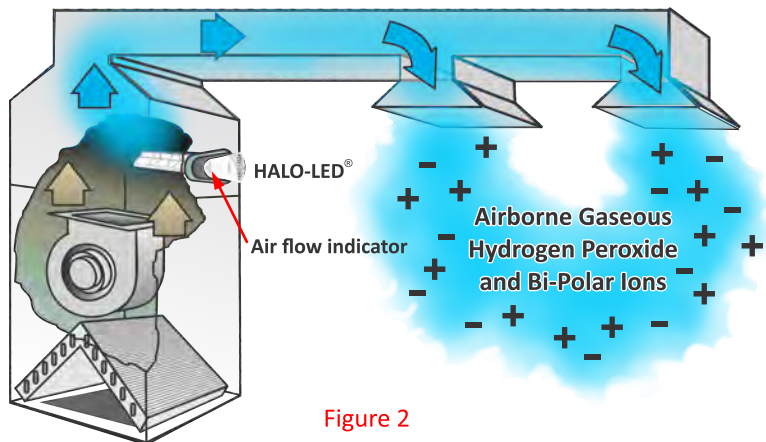

Figure 2
- To maximize the effectiveness of the HALO-LED®, it is recommended, whenever possible, to install the HALO-LED® unit in the air plenum just after the air handling unit (supply side). Refer to Figure 2.